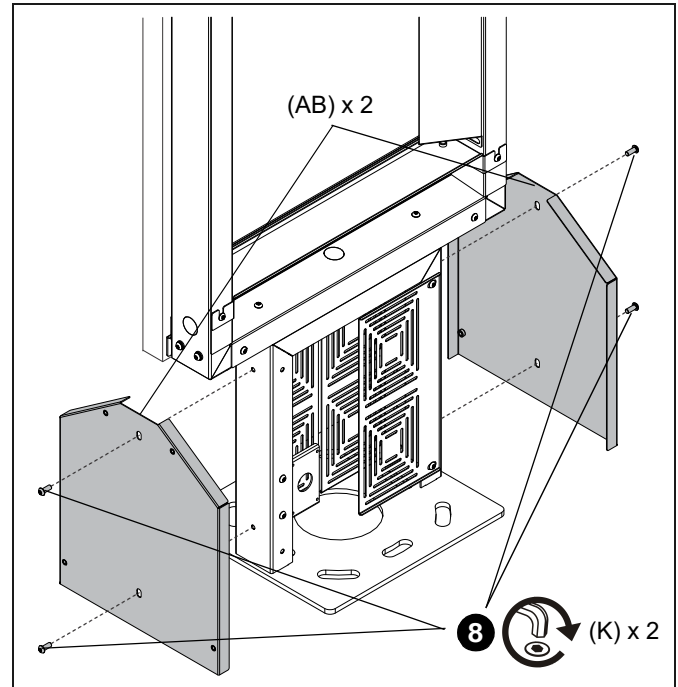

Figure 30
8. Install two side covers (AB) to the sides of the base (AA) using four M8 x 20mm screws (L) (two per cover). (See Figure 30)